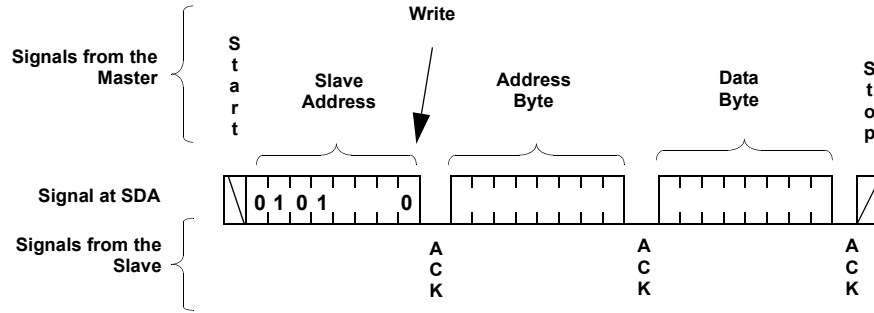
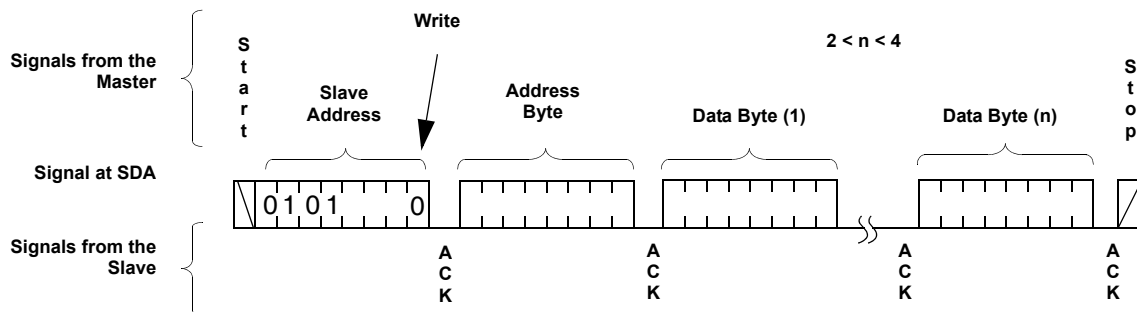

FIGURE 7. BYTE WRITE SEQUENCE
FIGURE 9. PAGE WRITE OPERATION
- 2. Access the desired DR or WCR using a new write or read command** (see Figure 7 for write and Figure 9 for read.)
For any Byte Write operation, the X9455 requires the Slave Address byte, an Address Byte, and a Data Byte (See Figure 7). After each of them, the X9455 responds with an ACK. The master then terminates the transfer by generating a STOP condition. At this time, if the write operation is to a volatile register (WCR, or SR), the X9455 is ready for the next read or write operation. If the write operation is to a nonvolatile register (DR), and the  $\overline{WP}$  pin is high, the X9455 begins the internal write cycle to the nonvolatile memory. During the internal nonvolatile write cycle, the X9455 does not respond to any requests from the master. The SDA output is at high impedance.
As stated previously, the memory is organized as a single Status Register (SR), and four pages of four registers each. Each page contains one Data Register for each wiper. Normally a page write operation will be used to efficiently update all four Data Registers and WCR in a single Write command. Note the special sequence for writing to a page: First wiper 0A, then 1B, then 1A, then 0B as shown in Figure 9.
up to 4 bytes (See Figure 9). After the receipt of each byte, the X9455 responds with an ACK, and the internal WCR address is incremented by one. The page address remains constant. When the address reaches the end of the page, it “rolls over” and goes back to the first byte of the same page.